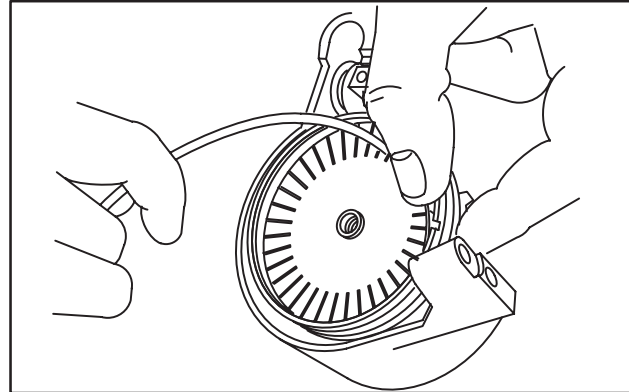

Fig. 57
- Hook end of spring into spring retainer on outside diameter of pulley, Fig. 57.